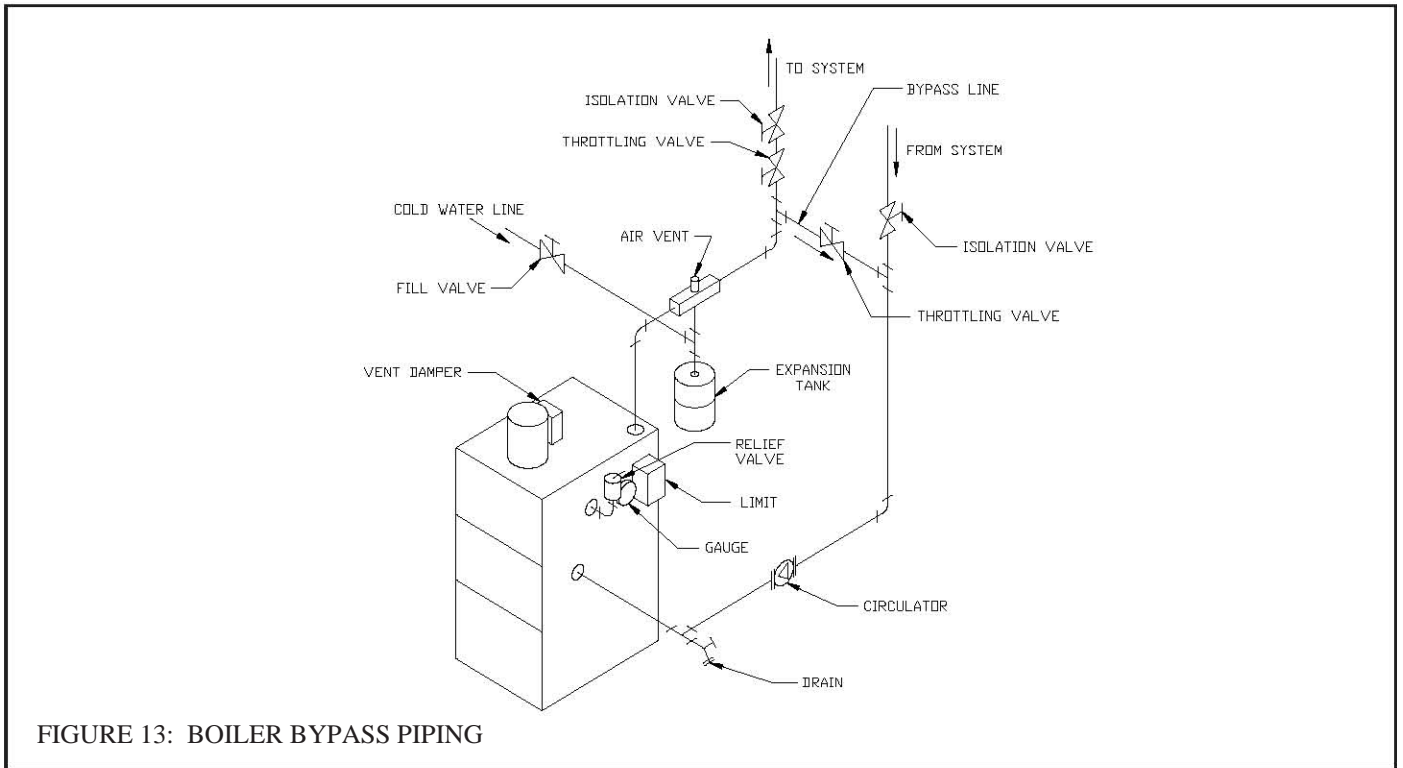

FIGURE 13: BOILER BYPASS PIPING
- 2) **Large Water Volume Systems** - The piping shown in Figure 13 will minimize the amount of time that the boiler operates